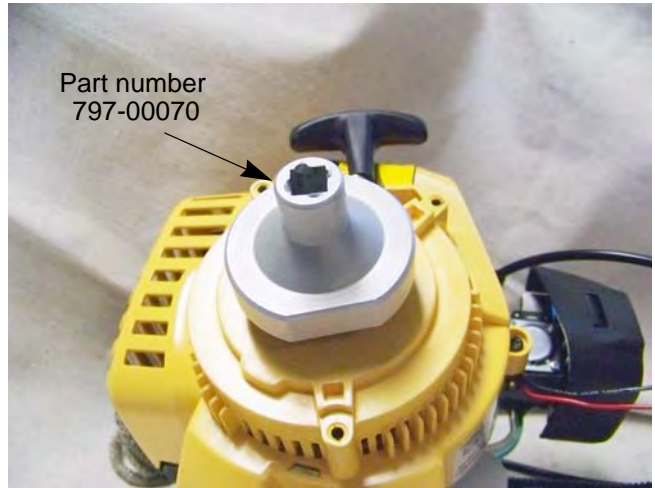

Figure 7.8
**NOTE:** The P25 engines use a rubber clutch. Clutch tool number 797-00070 can be used to remove it. See Figure 7.8.